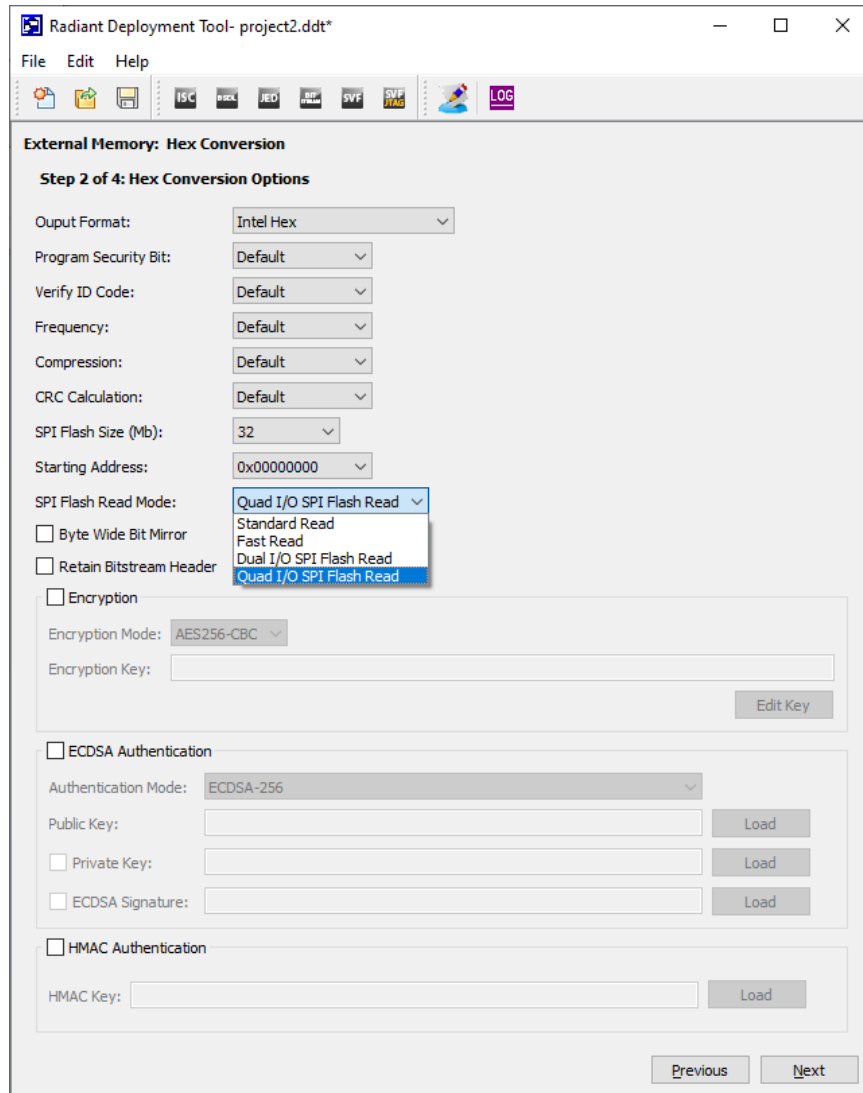

Figure 6.10. SPI Flash Settings
- Set the SPI Flash Size (Mb) to match with the QSPI flash on the board. Set the SPI Flash Read Mode to the intended mode, for example **Quad I/O SPI Flash Read**. Leave other settings as default or set them according to your use case. Click **Next** to proceed. See Figure 6.10.